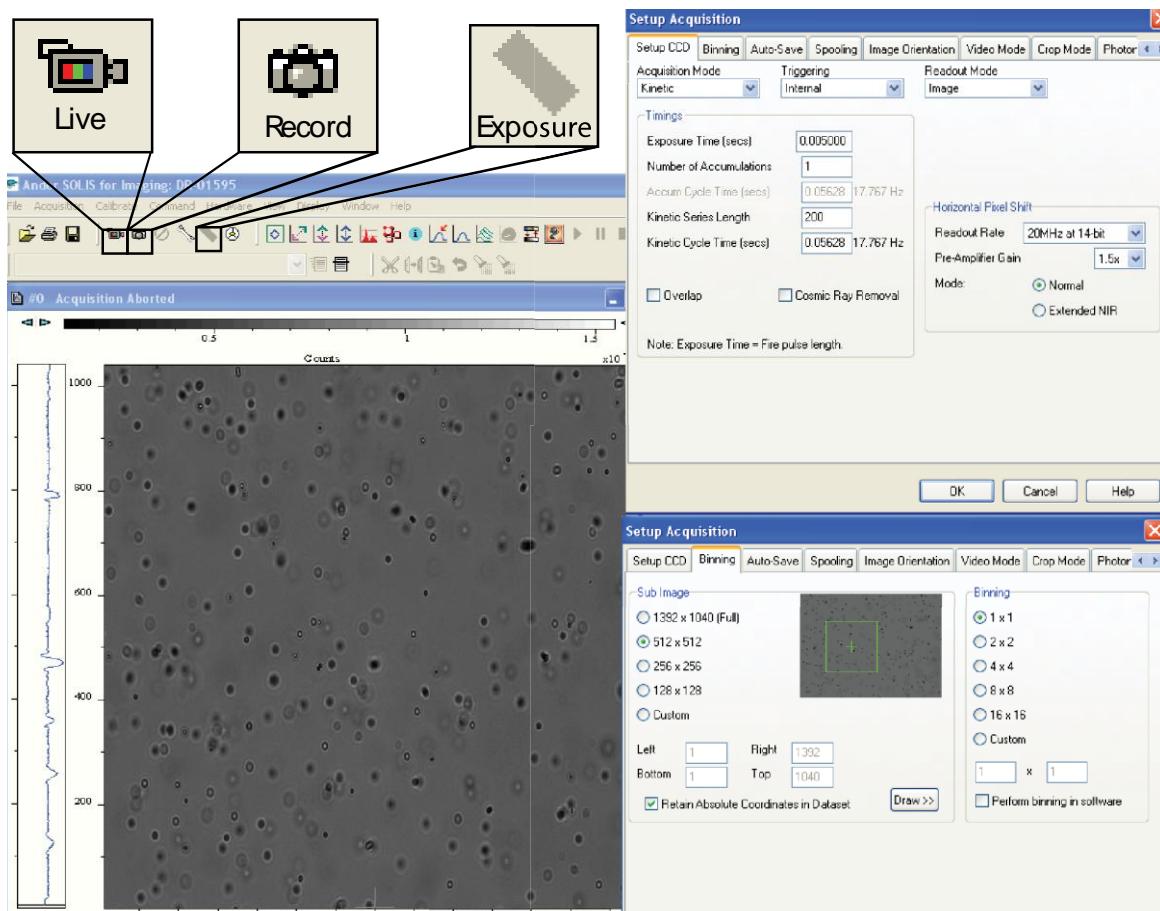

Figure 7. Andor Solis program for data acquisition. Bright field image of 0.97 μm beads.
- 6) Set up the exposure time to 0.05s *by pressing exposure button (Figure 7).